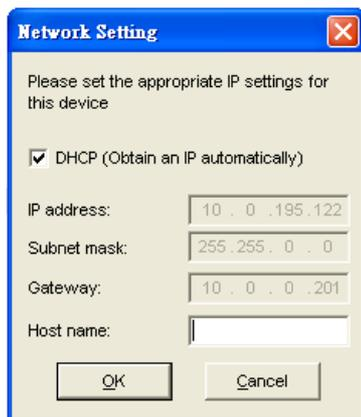

Fig. 8. SerialManager Auto IP Dialog Window
- ➔ Check "**Auto IP**" (Fig. 8)